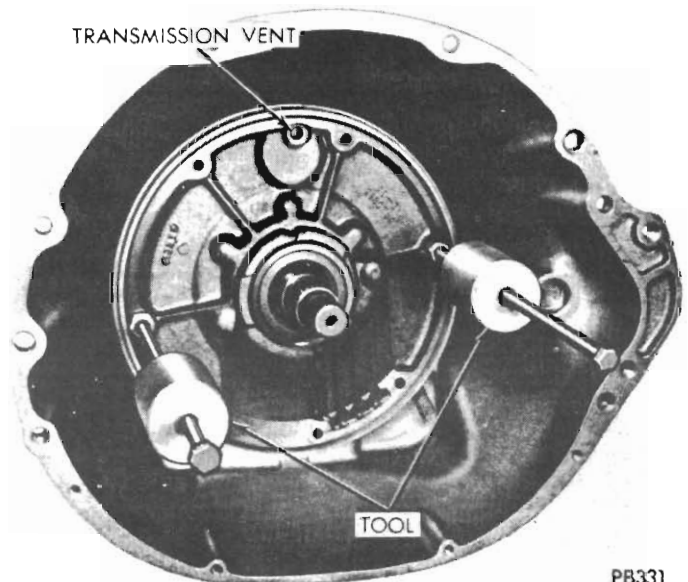

Fig. 50 - Removing pump and reaction shaft support assembly
(2) Remove oil pump housing retaining bolts.
(3) Attach Tool E21C35D to pump housing flange, (Fig. 50), in threaded holes in the flange.
(4) Bump outward evenly with the two “knocker weights” to withdraw pump and reaction shaft support assembly from the case.